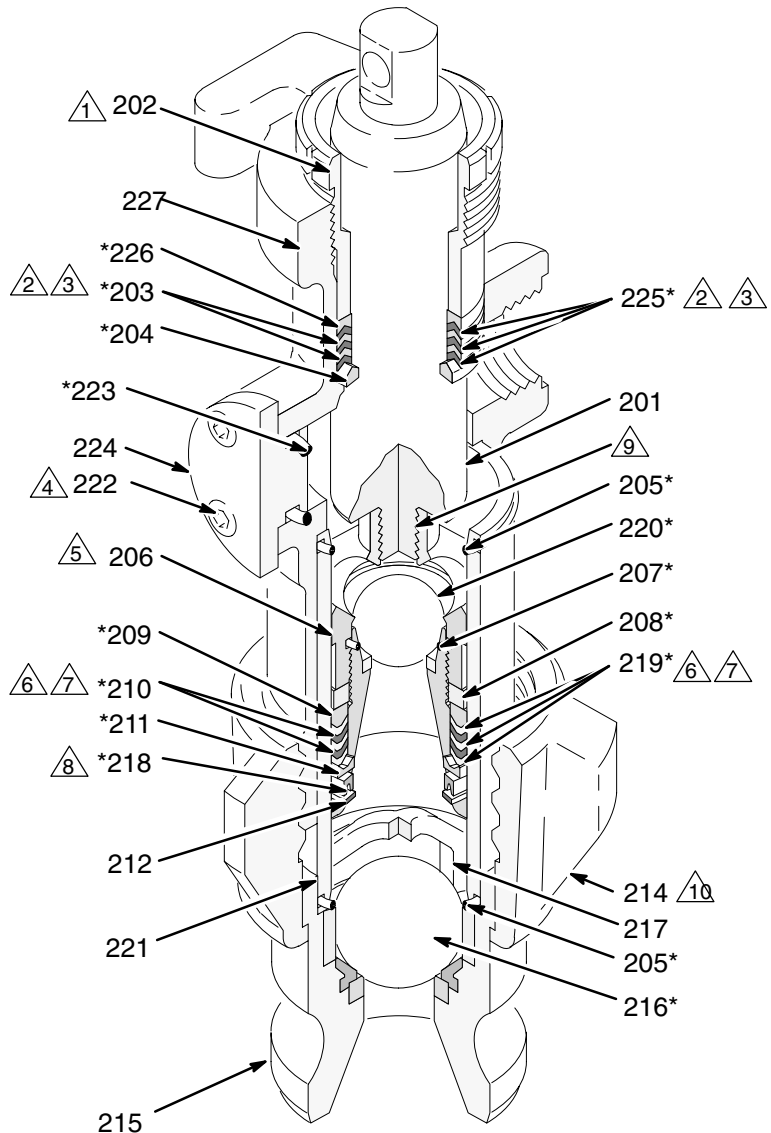

Fig. 14
2. Use a hammer on the tabs of the lug nut (214) to loosen the foot valve housing.
3. Disassemble the pump, but do not disassemble the piston rod (201) from the piston housing (206) unless one of those parts needs to be replaced. Due to the high-strength (red) Loctite® used at the joint of these two parts, the joint must be heated before disassembly. Refer to Fig. 14.
**NOTE:** Refer to Fig. 14.
1. If you disassembled the piston rod (201) and piston housing (206), clean the threads thoroughly. Apply Loctite primer and then red Loctite to the threads and torque to 80 to 100 ft-lb (110 to 135 N.m). Allow to dry at least one hour.
2. Assemble onto the piston seat (213): washer (212); u-cup seal (218\*) with lips toward ring; female gland (211\*) and then alternate the white (210\*) and purple packings (219\*), all with lips facing up; male gland (209\*).
3. Install the nut (208\*) on the piston seat (213). Hand tighten the nut very firmly.
4. Install the ball (220\*) in the piston housing (206).
5. Apply blue Loctite (supplied in kit) to the piston seat (213) threads and screw the assembly onto the rod, hand tight.
6. Place the piston seat (213) in a vise. Hold the packing nut (208) steady with one wrench and use a torque wrench to tighten the rod assembly to 90–125 ft-lb (122–170 N.m). Make sure the line you made in step 5 is still aligned.
7. Grease the throat of the intake housing (227). Assemble into the throat: male gland (204\*), flat side first; alternate white packings (225\*) and purple packings (203\*) and then the female gland, all with lips facing down. Install the packing nut (202) and tighten firmly by hand.
9. Grease the new o-rings (205\*) and install on the cylinder (221). Slide the cylinder into the bottom of the intake housing (227) until you hear it snap.